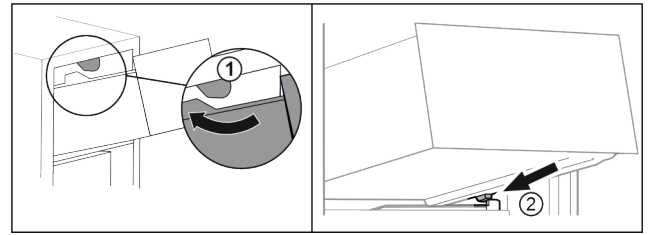

Fig. 72
- ▶ Guide drawer around the upper stoppers. Fig. 72 (1)
- ▶ Place drawer at an angle behind the lower stoppers onto moulded rib. Fig. 72 (2)